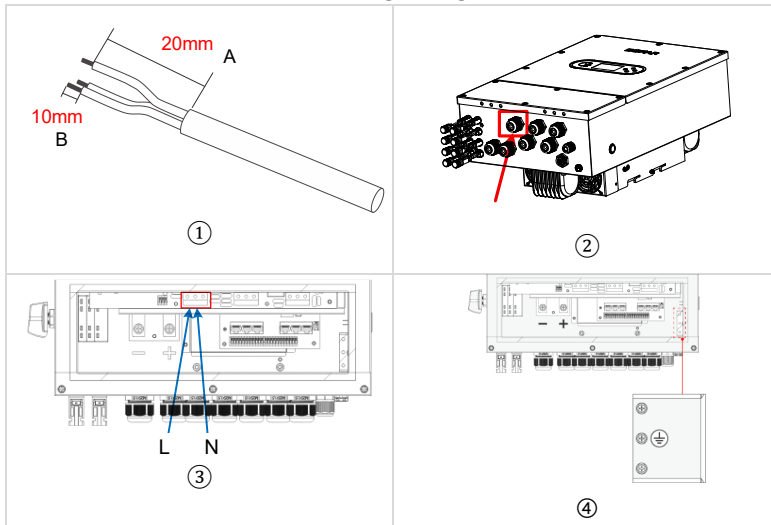

Figure 5-6 Generator connection
Step 2 Pass the cable through the Grid port and tighten the port cap, as shown in figure 5-6② below.
Step 3 The cables passed are locked on the terminals according to L and N and tighten it, the grounding cable should be firmly connected to the PE bar inside of the inverter as shown in figure 5-6 ③ and ④ below.